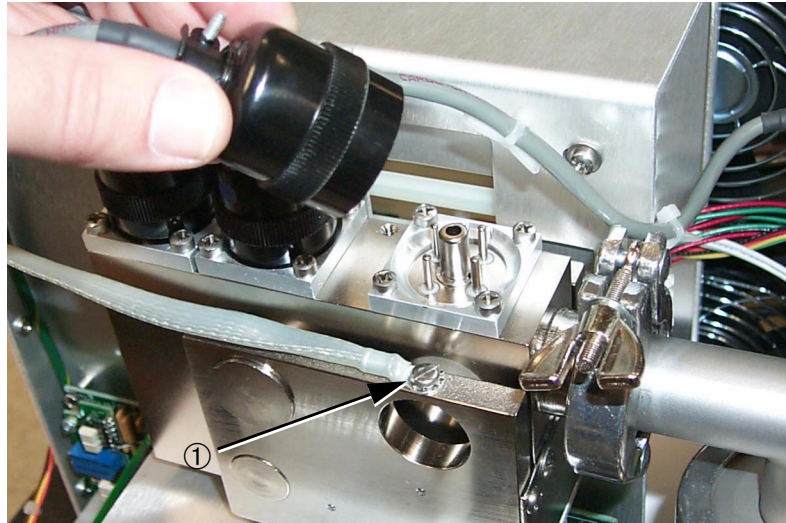

Figure 5-3 Removing the Connectors
4. Remove the three connectors from the top of the spectrometer tube (Figure 5-3). The connector cables are labeled TC, Ion Source, and Preamplifier. If the cables are not labeled, make a note of the order in which they are connected.